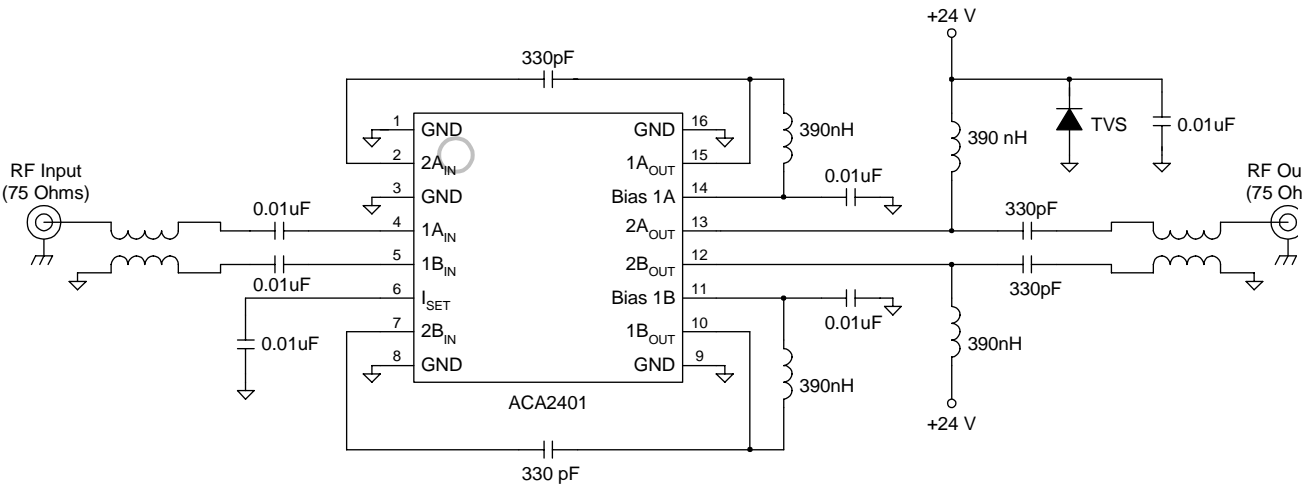

Figure 3: Test Circuit Schematic
(1) Measured with baluns on the input and output of the device. See Figure 3 for test setup.
(2) Parts measured with 77 channels, +56 dBmV power, 13.5 dB tilt at 870 MHz.
(3) Parts measured with 110 channels, +52 dBmV power, 13.5 dB tilt at 870 MHz.
(4) Parts measured with 128 channels, +50 dBmV power, 13.5 dB tilt at 870 MHz.